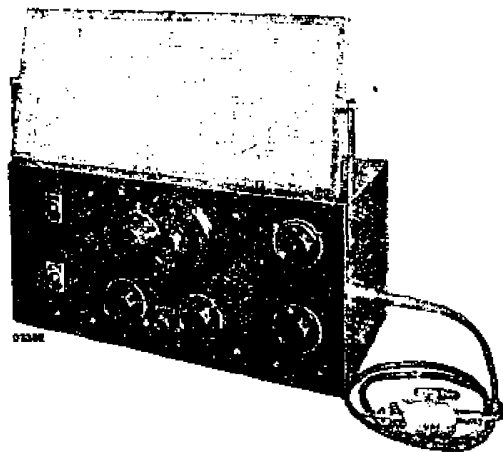

Fig. 1.
1. Service oscillator GM2880F (Fig. 1).